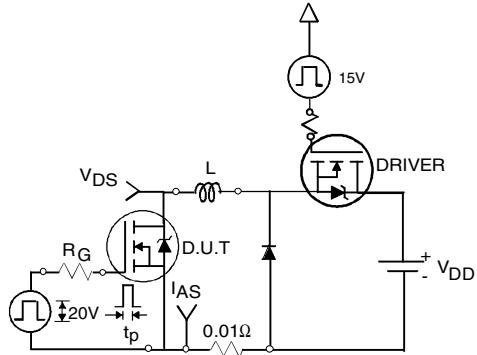

Fig 12a. Unclamped Inductive Test Circuit
3. Equation below based on circuit and waveforms shown in Figures 12a, 12b.
- ④ Pulse width $\leq 400\mu\text{s}$; duty cycle $\leq 2\%$.
- ⑤ $C_{oss\ eff}$ is a fixed capacitance that gives the same charging time as C_{oss} while V_{DS} is rising from 0 to 80% V_{DSS} .
- ⑥ Calculated continuous current based on maximum allowable junction temperature. Package limitation current is 75A.
- ⑦ Limited by T_{Jmax} , see Fig.12a, 12b, 15, 16 for typical repetitive avalanche performance.
- ⑧ This is applied to D²Pak, when mounted on 1" square PCB (FR-4 or G-10 Material). For recommended footprint and soldering techniques refer to application note #AN-994.